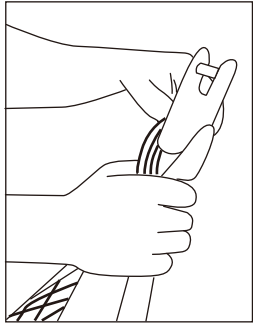

Fig. 7
4. Attach rope clevis to Grip pulling eyes and Jacket pulling eyes (Fig 7).